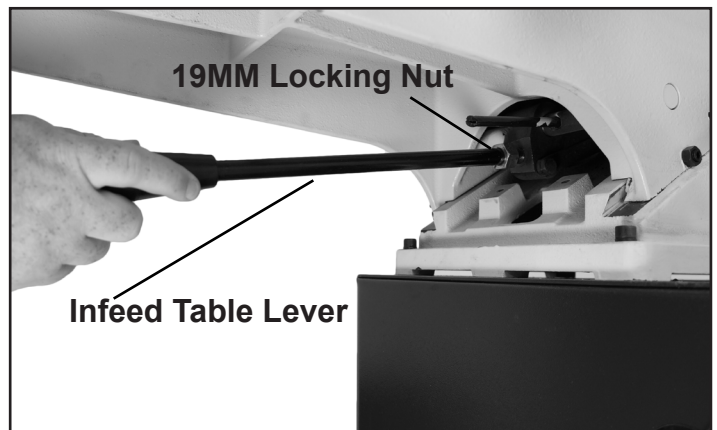

FIG. 16
2. Once the Infeed Table Lever is fully threaded into the Lifting Assembly tighten the 19MM locking nut to secure into position. FIG. 16.